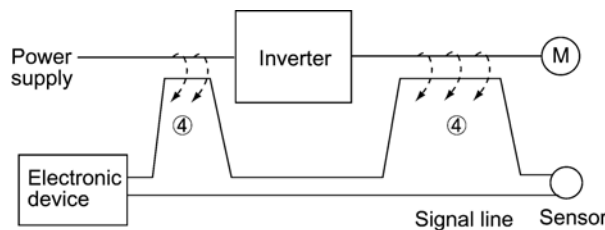
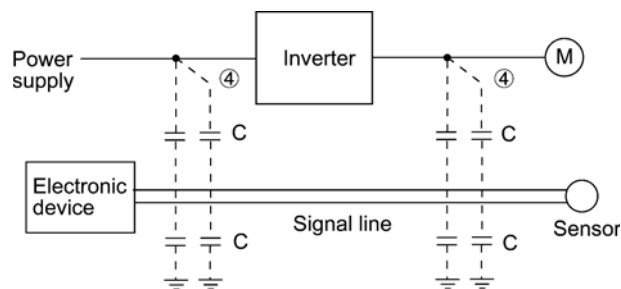

Figure A.4 Electromagnetic Noise
Figure A.5 Electrostatic Induction Noise
(2) Induction noise
When wires or signal lines of peripheral devices are brought close to the wires on the input and output sides of the inverter through which noise current is flowing, noise will be induced into those wires and signal lines of the devices by electromagnetic induction (Figure A.4) or electrostatic induction (Figure A.5). This is called "induction noise" ④.